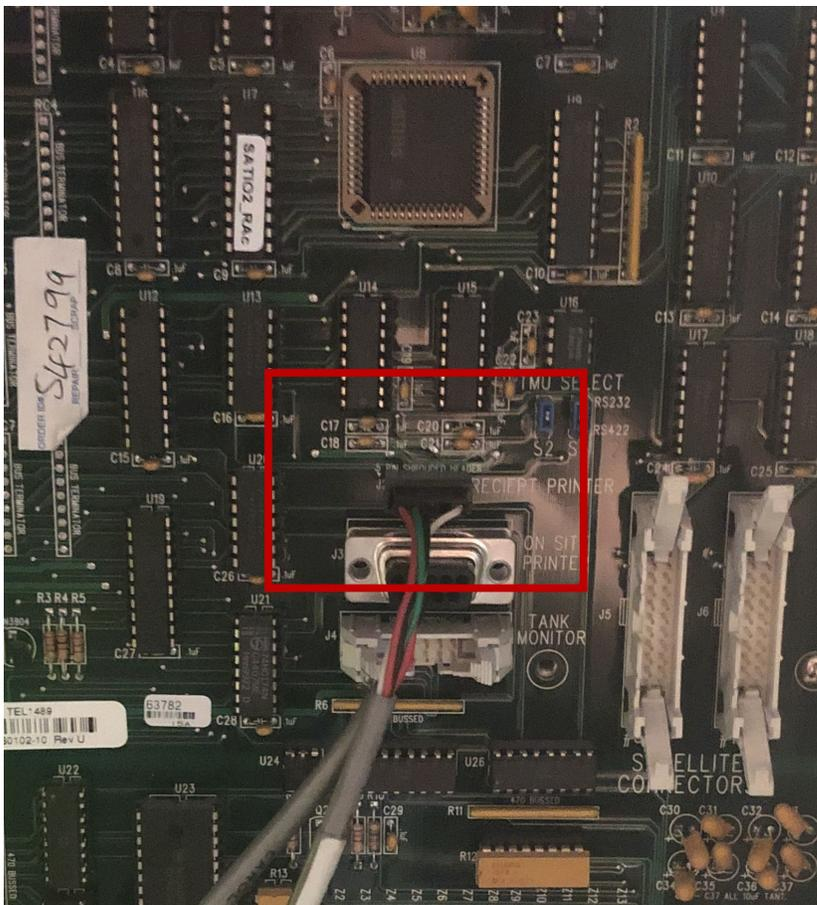

Figure 2. Connect Communications Cable - FMPlus
- a. For FMPlus hardware, connect the communications cable to J2 RECEIPT PRINTER on the Satellite I/O Control Board . The receptacle is keyed to only accept the connector one way (Figure 2).